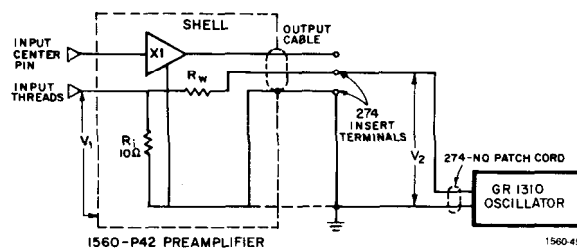

Figure 4-3. Setup for determination of system sensitivity.
a. Make the setup of Figure 4-3. Connect the oscillator to the 274 insert terminals (the connector at the end of the Preamplifier output cable). Connect the voltmeter between the threaded portion of the input connector and the shell of the Preamplifier, i.e. across the insert resistor (clip leads can be used). Power for the Preamplifier is not needed. In the figure,  $R_i$  is the insert resistor (nominally  $10\ \Omega$ ) and  $R_w$  is the internal wiring resistance (typically a few tenths of an ohm).